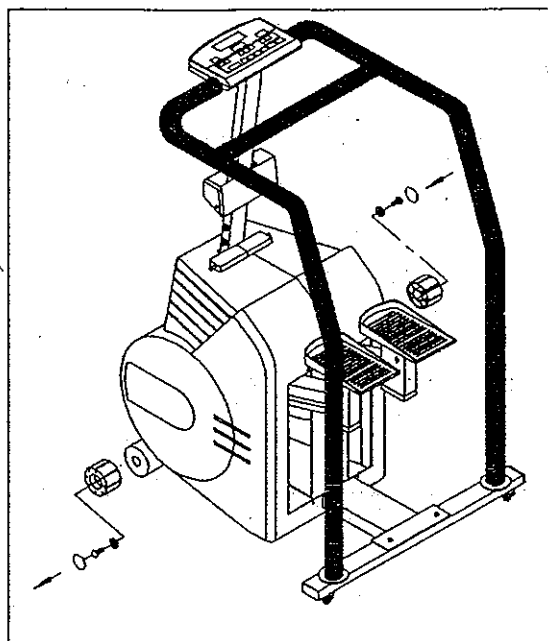

Fig. 24
10. Replace the transport wheels, tighten with washer and screw, then cover with labels (see Fig. 24).